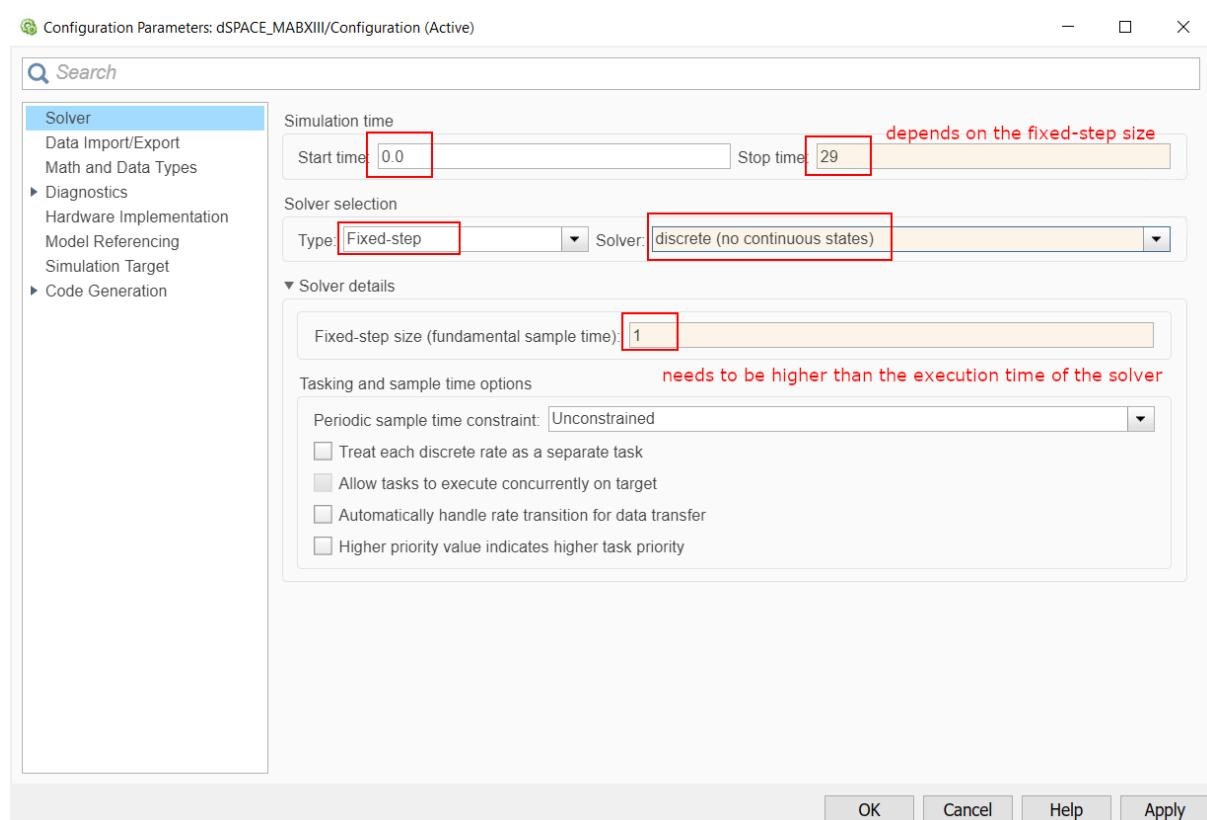

Figure 13.64: Set the Simulink solver options.
- 8) Access the Simulink model's options. In the “Solver” tab, set the options (see Figure 13.64):